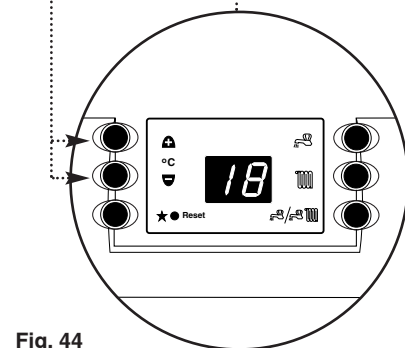

Fig. 44
2. With mains switched on to the boiler press the "+" and "-" Temperature Control Buttons at the same time for 5 seconds. The display will show "18 or 10" (Fig. 44).